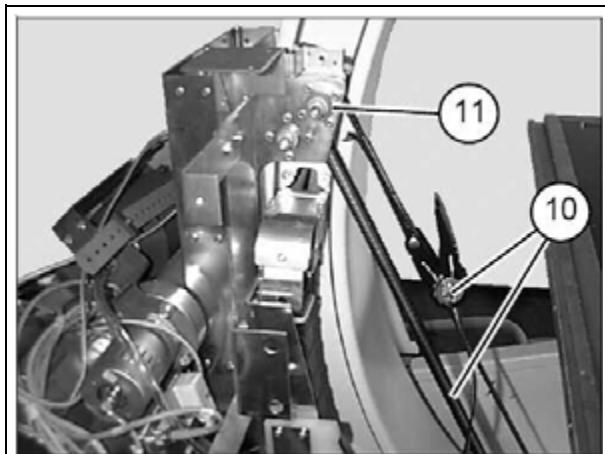
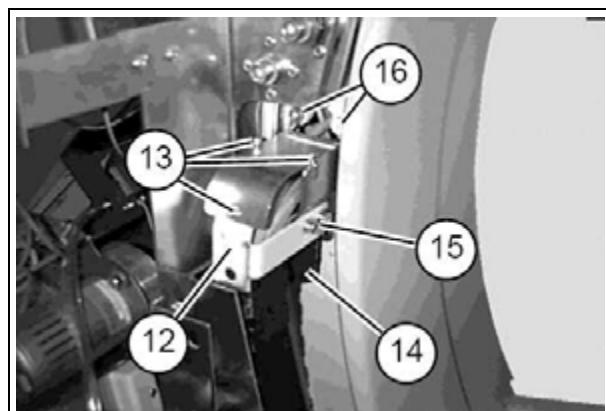

Fig. 35: Tensioning belt_A
Fig. 37: Cable guides
- Attach the tensioning belt ((10/Fig. 35 / p. 65) and (10/Fig. 37 / p. 65)) on one of the sides; route the tensioning belt over the **upper concealed roller** (11/Fig. 35 / p. 65).
- Lift up the C-arm using the tensioning belt until the cable guides ((12/Fig. 37 / p. 65)) are accessible.
- Loosen the three screws ((13/Fig. 37 / p. 65)) and remove the cover plate.
- Remove the rubber end stop ((14/Fig. 37 / p. 65)); the attachment screw (Allen 6 mm) is accessible from above, through the cable harness.
- Remove the two screws ((15/Fig. 37 / p. 65)).
- After removing the 4 attachment screws from above ((16/Fig. 37 / p. 65)) and below (in (Fig. 37 / p. 65) concealed), push the holder downward as far as possible.
- Lower the C-arm far enough and hold it with the tensioning belt until both cable guides and rubber end stops (\(Fig. 37 / p. 65\)) can be reassembled in reverse order.